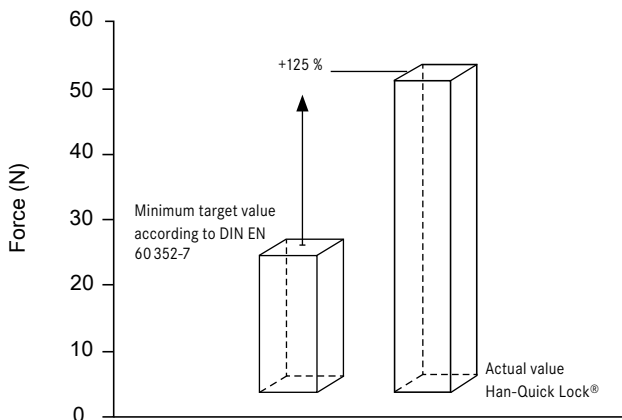

Figure VII-4: Wire pull-out forces with cable cross-section  $0.5 \text{ mm}^2$
- Wire retention force: The required minimum values as specified in DIN EN 60352-7 have been greatly exceeded (refer to Figure VII-4).